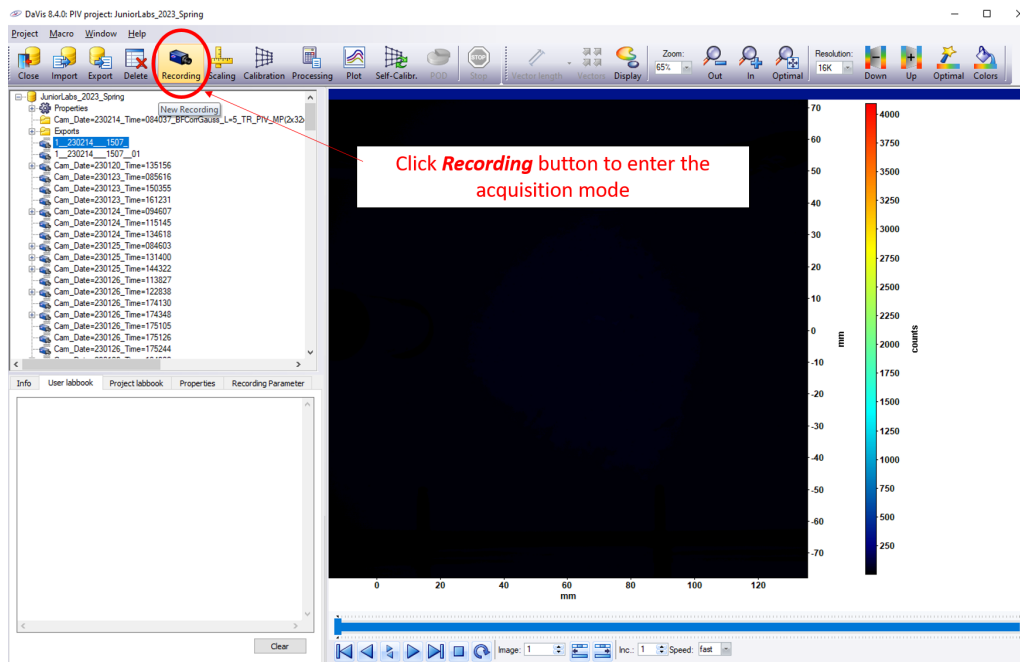

Figure 3: Enter acquisition mode with the "Recording" button
- Click "Recording", see Figure 3.